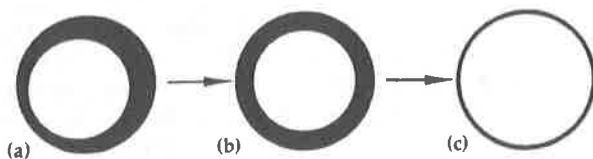

Figure 4
- c. Lower the condenser until the light is seen as a circle in the center of the field. On some microscopes the circle of light may be centered (Figure 4) using the centering screws found on the condenser.